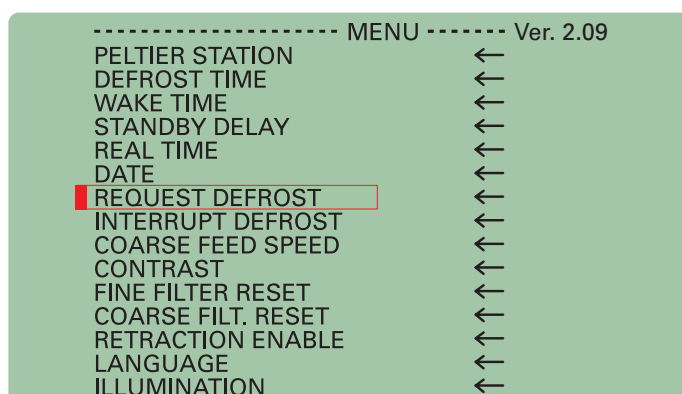

Figure 55. Display: Adjust defrosting cycle.
- To quit the submenu, press the menu button (fig. 55).